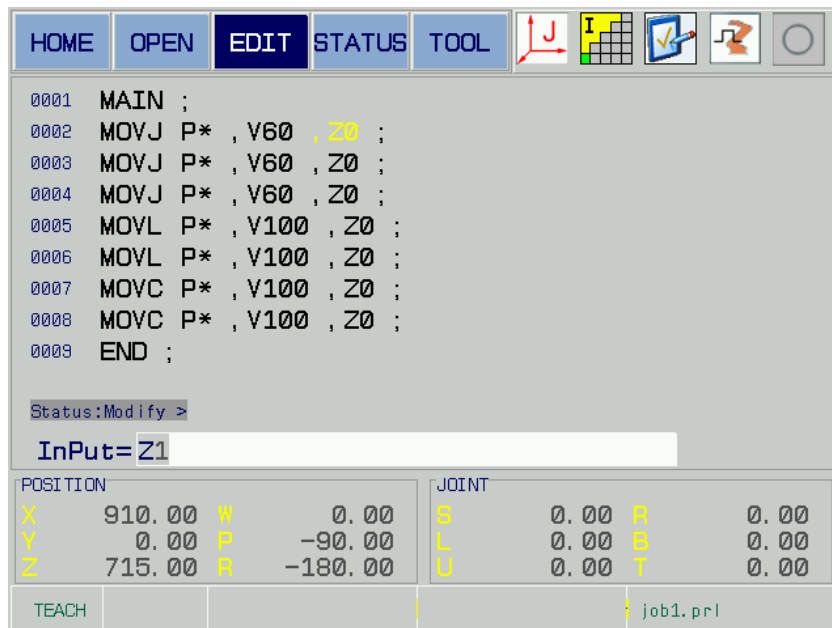

Fig. 5-50
5. Input the desired accuracy value of the MOVJ command movement by the numerical value buttons; for example, Z1, input the 4 by these buttons; refer to the Fig. 5-50.